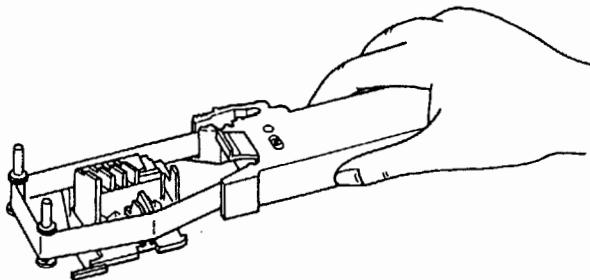

Fig 6.6
- (6) Move that ribbon cassette back by approx. 10 mm toward the guide pins. Be sure to install the ribbon to the guide roller by dropping the slackened ribbon on the roller section so as to cover the front and rear of the printer head. (Fig. 6.6)